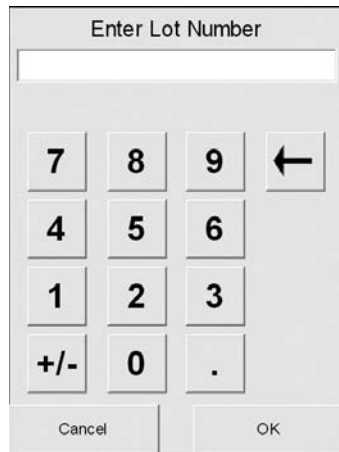

Fig. 6-5 Enter Lot Number
6. Enter the lot number of the tHb-Calibrator cassette located on the top surface of the cassette and press (Fig. 6-5).